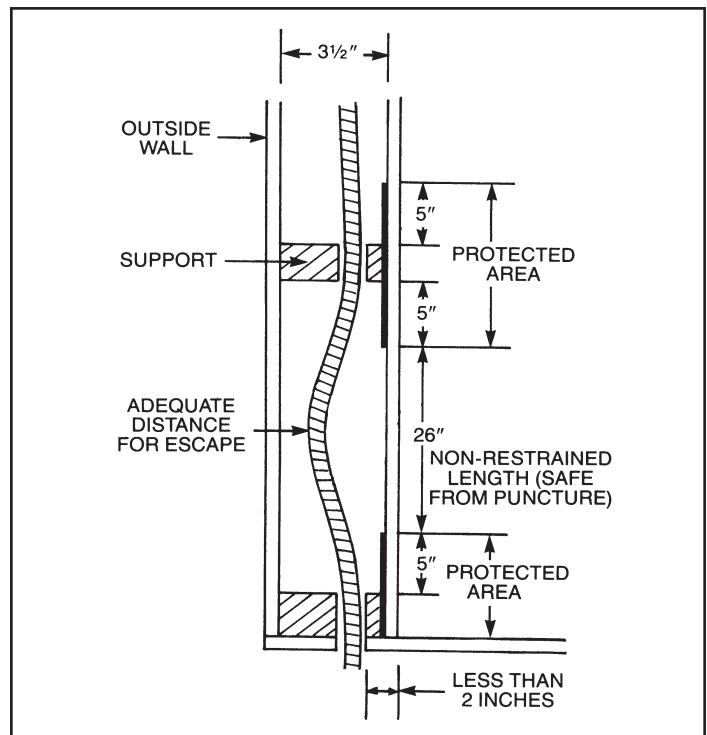

Figure: 4-19 Long Unsupported Tubing Runs (over 3') within a Wall Partition.
- a. At support points and points of penetration less than 2 inches away from any edge of a stud, joist, plate, etc. shielding is required at the area of support and within 5 inches of each side (if appropriate). Use a half-striker or a full-striker plate in these locations. (**Figure 4-19**)